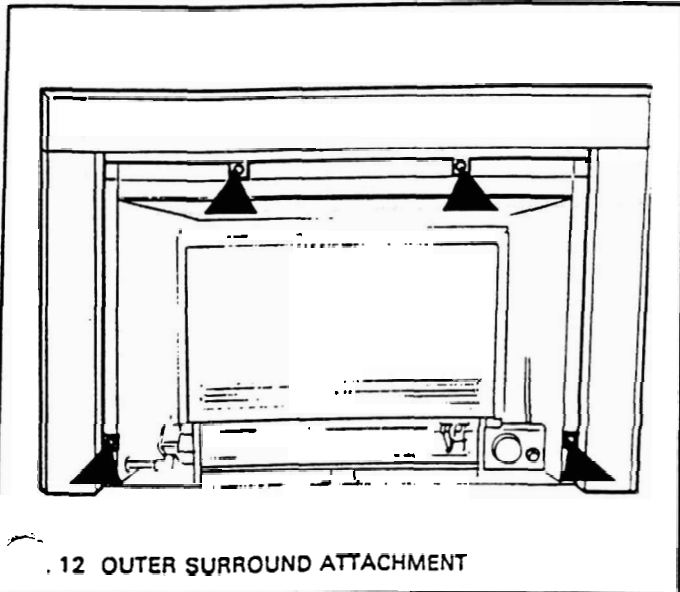

Fig. 12 OUTER SURROUND ATTACHMENT
- 2.4.2. Place the assembled outer surround in position against the heater. Secure to the heater front flanges with screws through the two brackets on the top cross piece and through two holes on the inner flanges of each of the surround sides (see fig. 12)